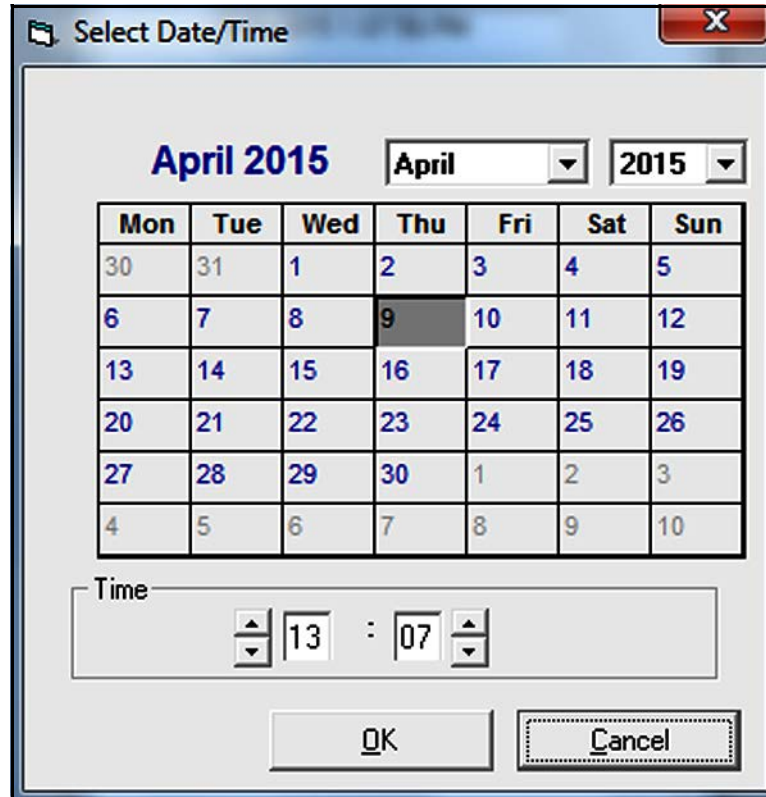

Figure 47: The Date/Time Dialog Box
- Click on the **[Set]** button to open the dialog box shown in *Figure 47* below. Set the desired date and time as indicated, and click on the **[OK]** button.